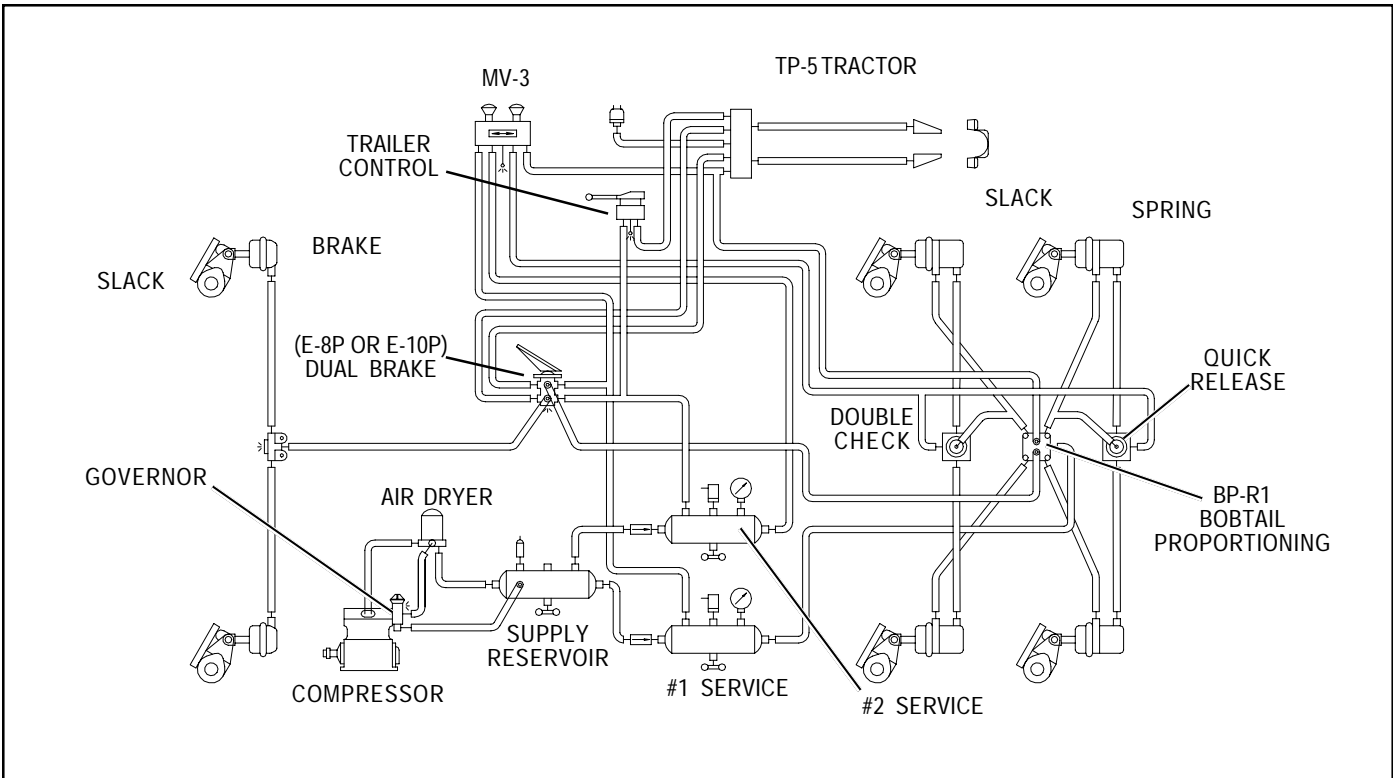

FIGURE 3 - TYPICAL PIPING SCHEMATIC
OPERATION - Refer to Figure 3
2. Remove the screw (9) securing the exhaust diaphragm (10) and washer (11) to the exhaust cover (12).
3. Remove the four screws that secure the exhaust cover (12) to the lower body.
4. Remove the secondary inlet and exhaust valve assembly (13) from the lower body.
6. Remove the rubber seal ring (14) from the lower body.
7. **For E-8P only:** While applying thumb pressure to the primary piston (22), lift out and up on the three lock tabs of the primary piston retainer (15).
8. **For E-10P only:** While depressing spring seat (7), remove retaining ring (8). Remove spring seat (7) and coil spring (5).
Caution: Before proceeding with the disassembly, refer to Figures 3 and 4 and note that the lock nut (16) and stem (17) are used to contain the primary piston return spring (**for E-8P:** 23, **for E-10P:** 6), stem spring (19), and the relay piston spring (21). The combined force of these springs is approximately 50 pounds and care must be taken when removing the lock nut as the spring forces will be released. It is recommended that the primary piston and relay piston be manually or mechanically contained while the nut and stem are being removed.
9. Using a 3/8" wrench, hold the lock nut (16) on the threaded end of the stem (17). Insert a screwdriver to restrain the stem, remove the lock nut (16), spring seat, (18) and stem spring (19).
10. **For E-10P only:** Remove adapter (1) and o-ring (4). Remove the primary piston (2) from adapter (1) and o-ring (34) from the primary piston (2).